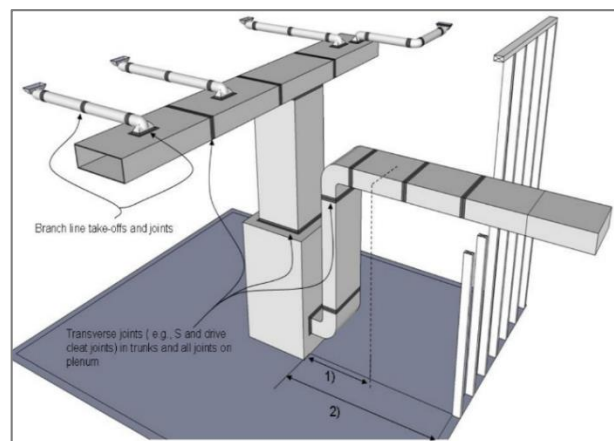

Figure 21: Option 7B duct sealing requirements
Figure 21 illustrates the Option 7B duct sealing requirements. This option requires:
- Sealing of supply and return ductwork as described in OPTION 7B and illustrated in Figure 21; and,